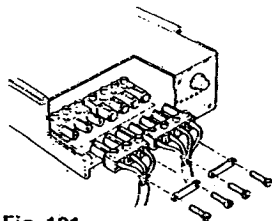

Fig. 101
3. Release the mains cables from the cable clamps and unplug the mains connection blocks from the circuit board (Fig. 101).